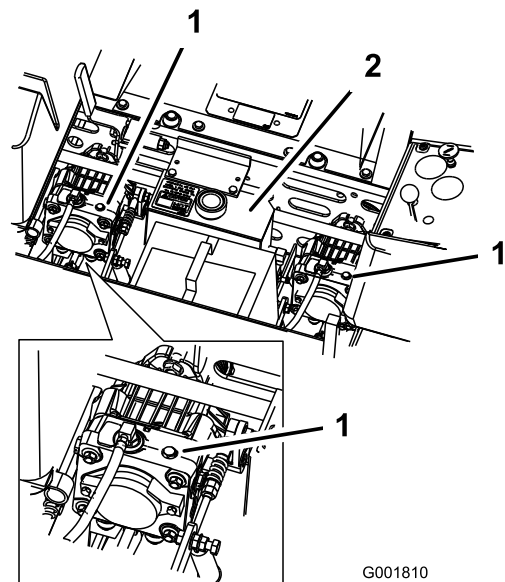

Figure 33
2. Rotate the by-pass valves counterclockwise 1 turn to push. This allows hydraulic fluid to by-pass the pump enabling the wheels to turn (Figure 33).
Rotate the by-pass valves clockwise 1 turn to operate machine (Figure 33).